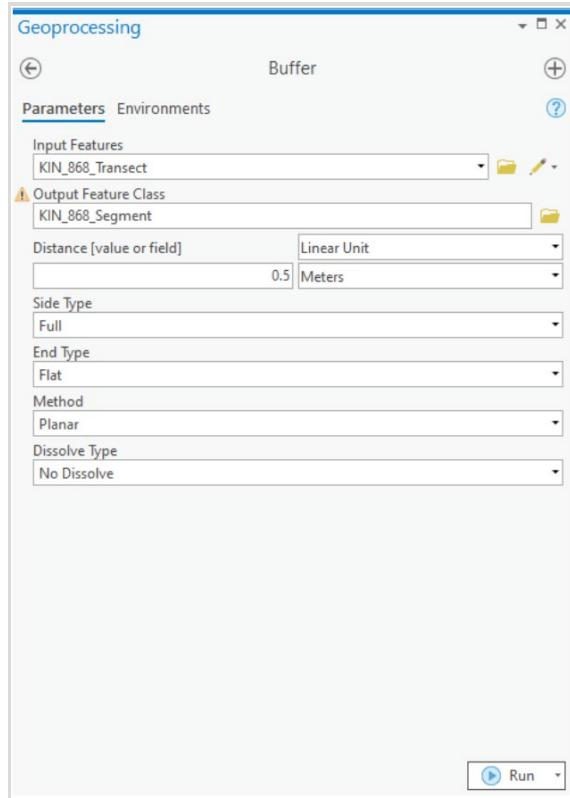

Figure 6.4 Screenshot in ArcGIS Pro of the buffer tool with desired settings.
2. Under ‘Analysis,’ click ‘Buffer’ (Figure 6.4).